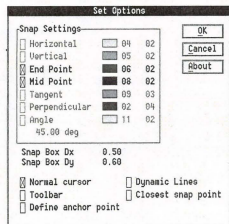

Figure 1
**Step 2:** The Set Options dialog box shown in Figure 1 is displayed. The lower left corner of the dialog box contains the Normal cursor and Toolbar selection boxes. When these options are checked, they are on; when they are blank, they are off. When Normal cursor is Off (blank), the QuikSnap cursor is active. Turn the Normal cursor option Off and the Toolbar option On. When it is on, the Toolbar option displays seven snap settings that can be turned